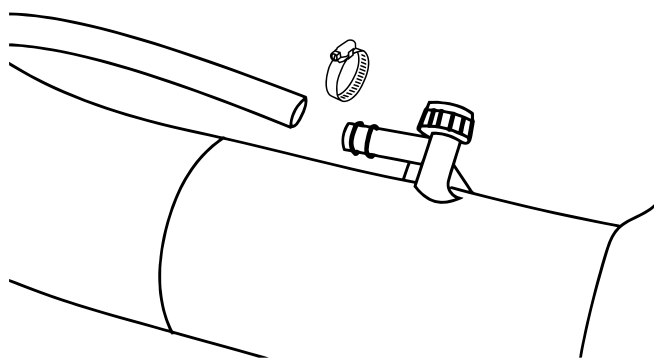

FIGURE 7
4.2.8 Attach the other end of the clear feeder tube to the back of the fan nozzle. **FIGURE 7.**
NOTE: To secure in place, use a hose clamps at the ends of the clear tube. **FIGURE 7.**